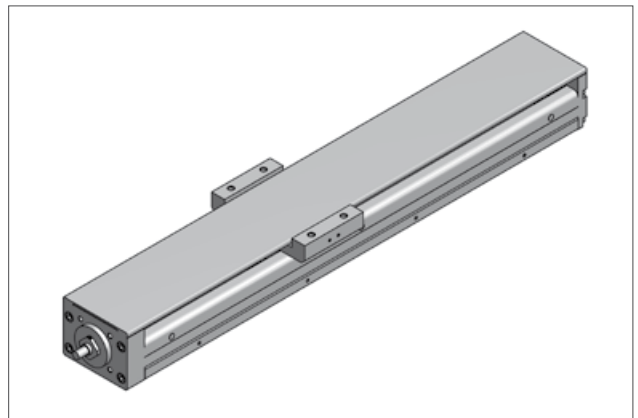

Figure 5.12 — AXBG with cover plate
- Optimal protection of the inside placed guiding and drive elements by the optional use of cover plates (Figure 5.12)